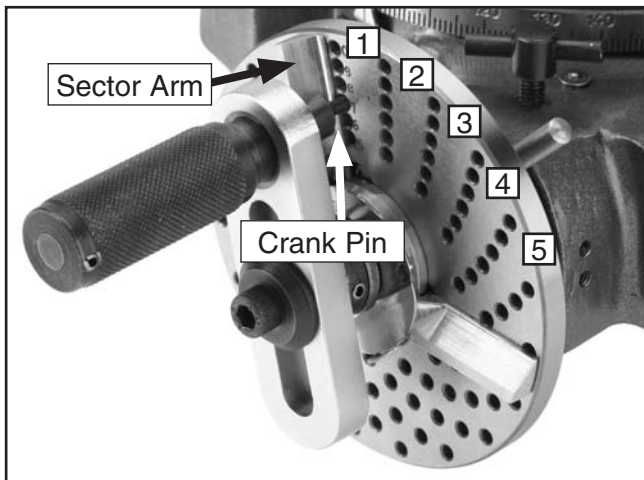

Figure 17. Hole spacing.
Note—What is actually being counted is the spacing between the holes. Five spaces need to be on the 17th hole circle between the sector arms (see **Figure 17**) .
- Move the sector arm so it rests against the crank arm pin as shown in **Figure 17**.